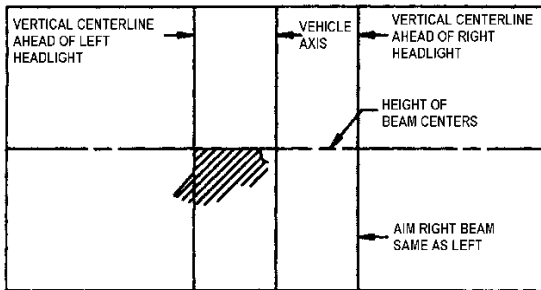

FIGURE 96: LOWER BEAM HIGH-INTENSITY ZONE PROPER LOCATION ON SCREEN 06504
5. Low beam headlamps are aimed so that the top edge (the cutoff) of the high-intensity zone is at the vertical location as per Table 1 and the left edge of the high-intensity zone is at the vertical centerline of the headlamp (Figure 96).